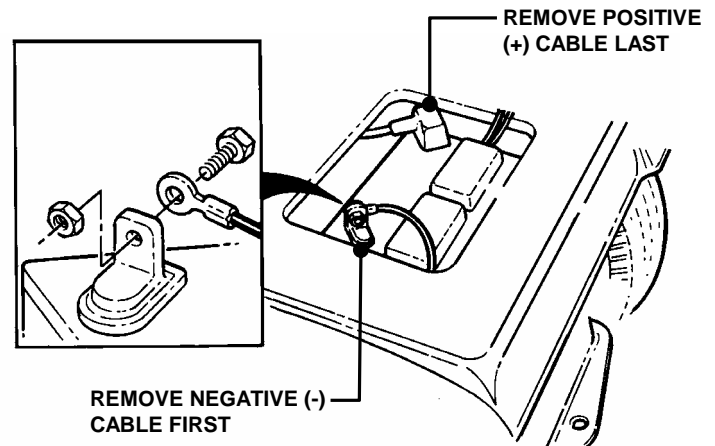

FIGURE 4.37
6. Remove battery. See Figure 4.37.
Cables must be connected to battery terminals in the proper position as shown in Figure 4.37. DO NOT attempt to charge battery while installed on tractor. DO NOT use "BOOST" chargers on the battery.